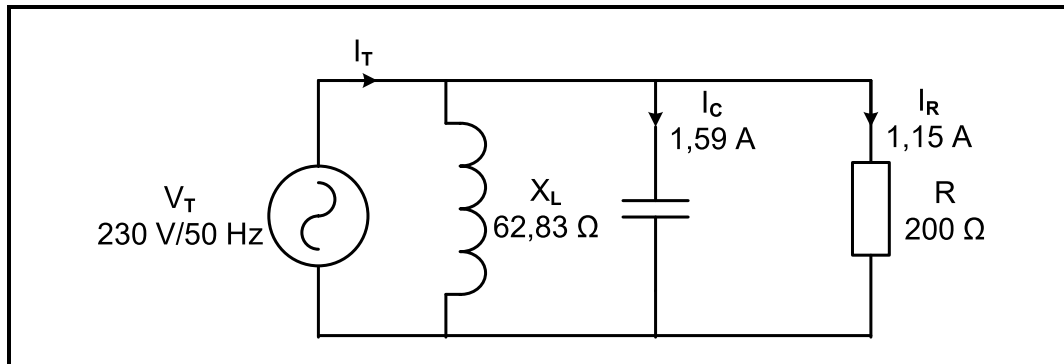

FIGURE 3.3: RLC PARALLEL CIRCUIT
3.3 Refer to FIGURE 3.3 below and answer the questions that follow.